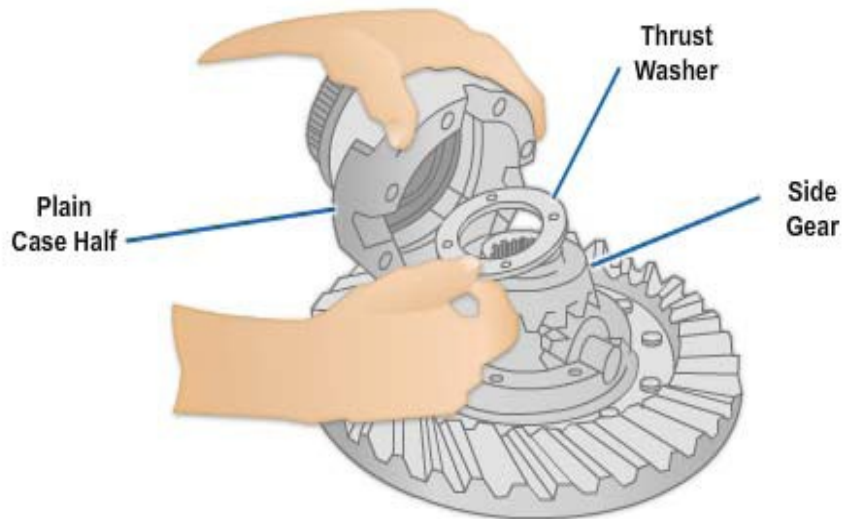

Figure 8-87 - Spider, differential pinion, and side gear installation.
10. Install the spider, differential pinions, and thrust washers into the flange case half (*Figure 8-87*).